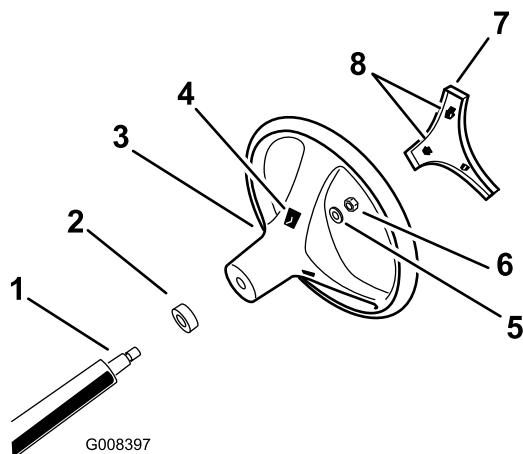

Figure 3
4. Secure the steering wheel to the shaft with the nut (Figure 3). Torque the nut to 18-22 ft-lb (24-29 N-m).